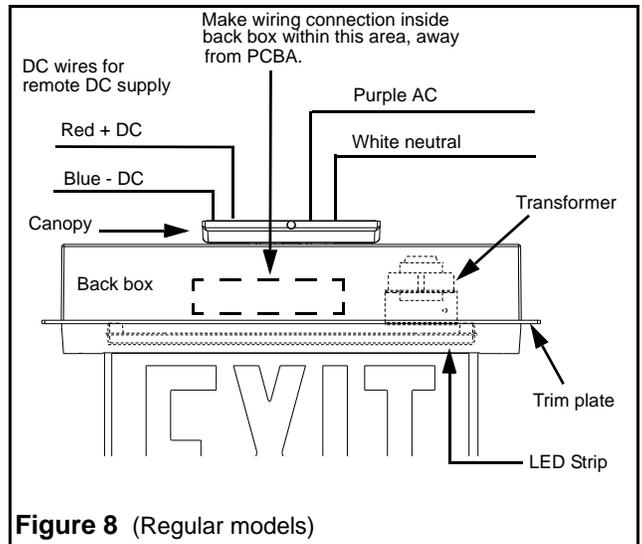
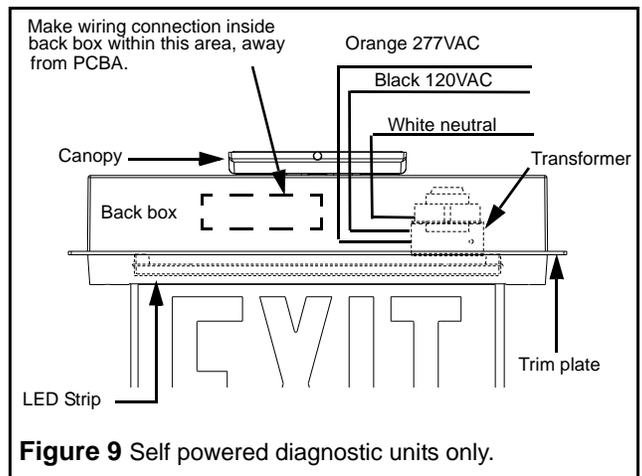

Figure 8 (Regular models)
Figure 9 Self powered diagnostic units only.
IMPORTANT: Wiring connections need to be done away from PCBA and in designated area as shown in figure 8 or 9.
- 4. **Electrical connection (Figures 8,9)**
- b. Make the proper connections. The system can accept input voltages of 120 VAC to 347 VAC. For regular models connect the purple (line) and white (common) leads to the building utility (figure 8). For models with diagnostic feature connect the white (common) and black (120 VAC) or orange (277 VAC) leads to the building utility (figure 9).